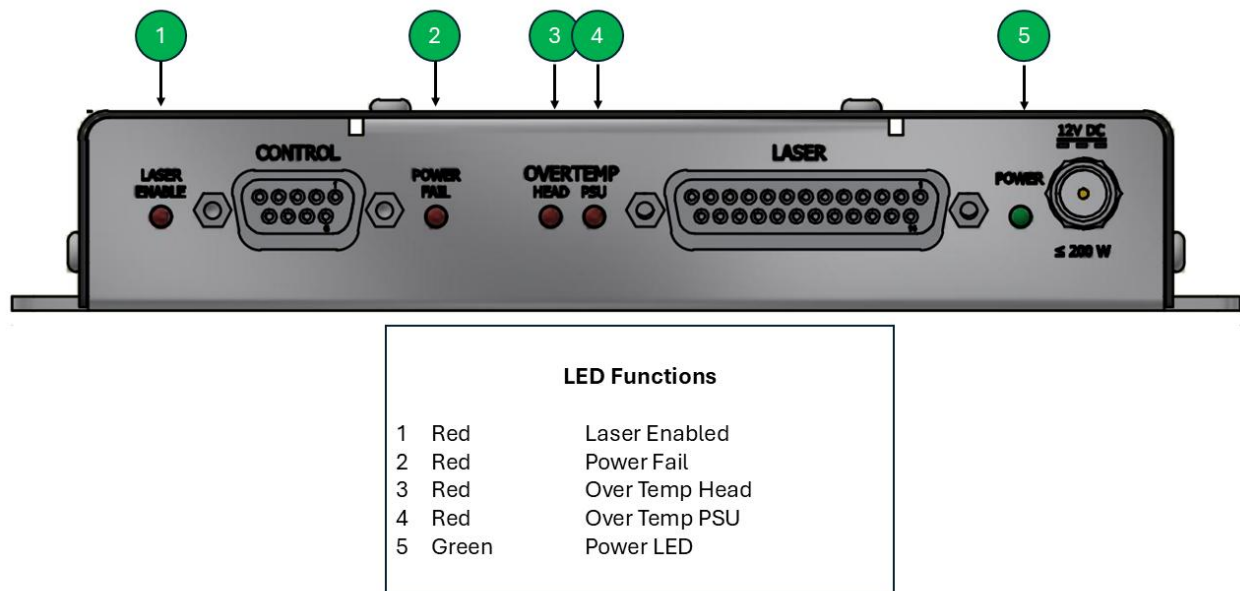
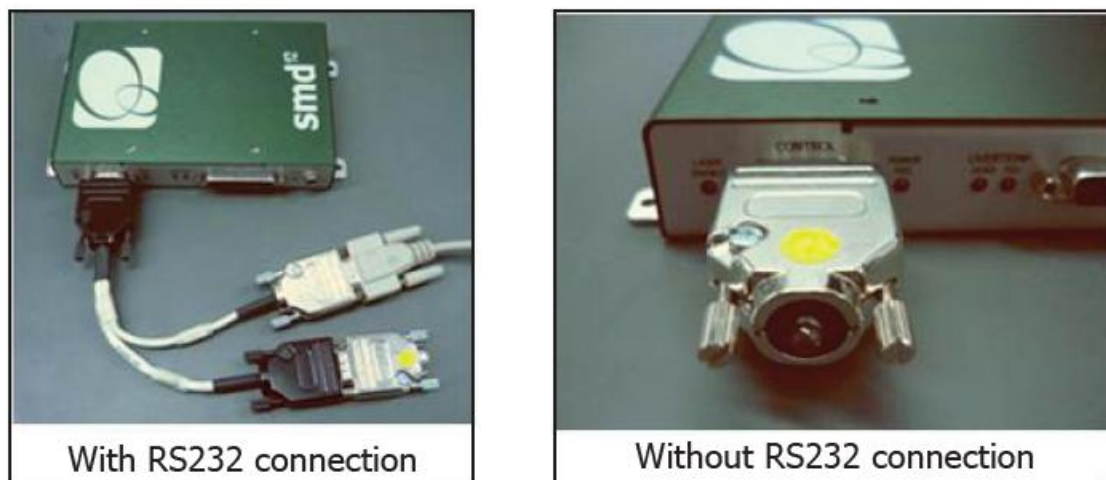

Figure 4-1
Figure 4-2
- 4 The analogue Control port (see Figure 4.2) is multi-functional as it has connections for Interlock, Enable Switch and Laser Power Control. The Interlock must be closed to allow the laser to operate, and this can be achieved using the supplied yellow-spot Interlock Dongle.
The **smd16** Control Port is multi-functional and allows for both interlock and RS232 communication. Due to this combined function the RS232 pin out is NON-STANDARD. The **smd16** can be operated directly via the Control port (see Fig 4.1) by applying 0 to 5 V in accordance with the diagrams in this section.
If a Break Out Cable has been supplied then the PSU Control Port is converted into two ports marked 'Interlock' and 'RS232' (see Fig 4-1 & Fig 4-2). The Break Out Cable 'Interlock' connector pinout.
Using the Control port without the Break Out Cable) see Fig 4.2):
Using the Control port with the Break Out Cable) see Fig 4.2):